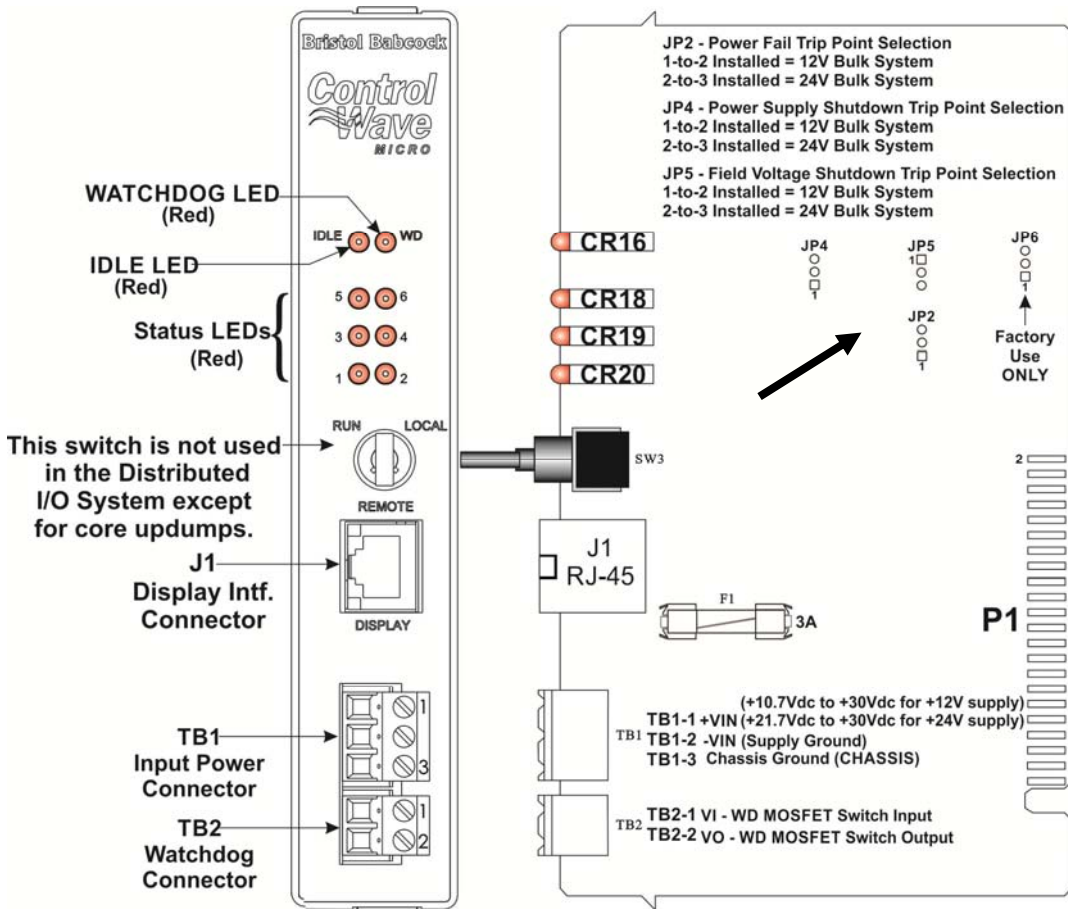
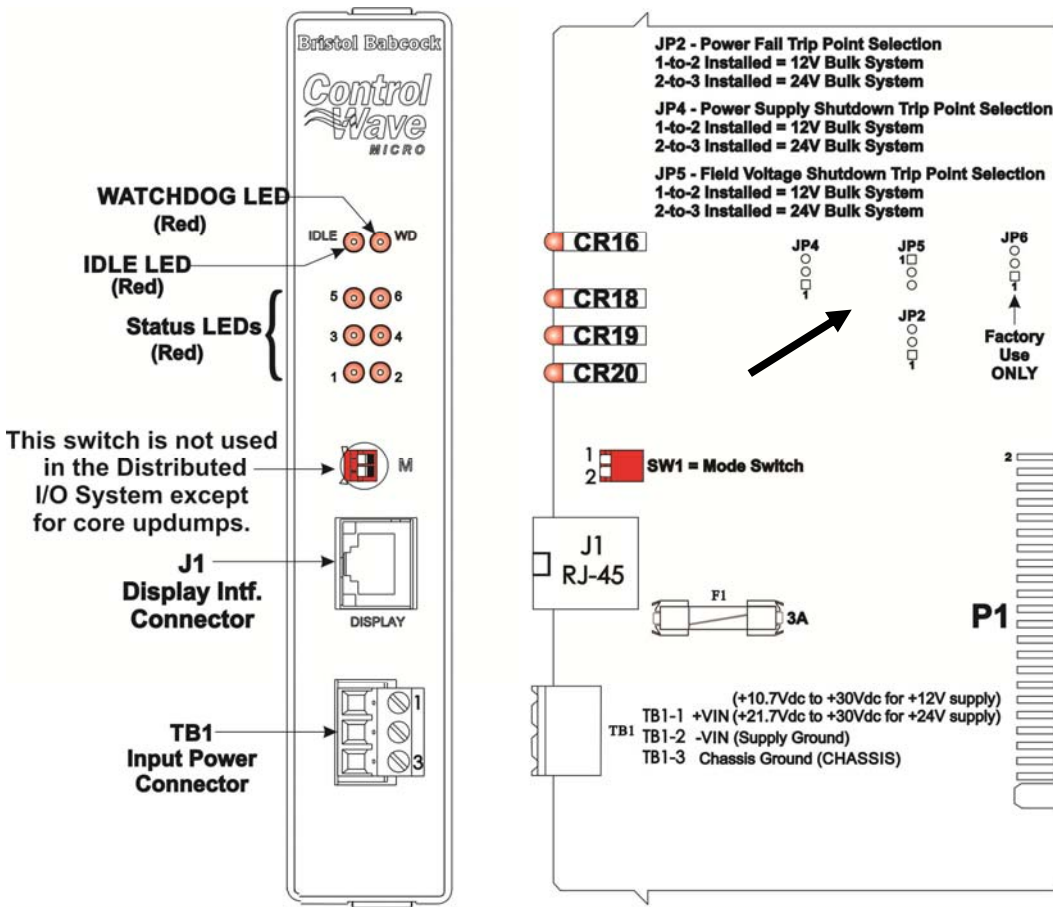

Figure 2-9. PSSM with Run/Remote/Local Switch, Display Interface, and Watchdog Connector
Figure 2-10. PSSM Module with Mode Switch, Display Interface, and without Watchdog Connector
- PSSM with Display Interface and Watchdog output (model 396657-01-0, Revision A and above) (see *Figure 2-9*)
- PSSM with Mode Switch SW1 & Display Interface (model 396657-02-8 without Watchdog output, Revision A and above) (see *Figure 2-10*)
Two terminal blocks (see Figure 2-9) provide external input power and watchdog connector switch connections. Two red LEDs on the PSSM’s front panel enable you to monitor the status of the watchdog (WD) and Idle (IDLE) circuits.
The power supply operates from +10.7 to +30 Vdc or from +21.7 to +30 Vdc. You can configure the nominal input supply configuration (12V or 24V) using configuration jumper switches on the PSSM PCB. See *Figure 2-9* and *Figure 2-10*.
The PSSM has three jumpers which you set based on whether your bulk DC power supply will provide +12V or +24V. See *Figure 2-9* or *Figure 2-10* to locate the jumpers on your version of the PSSM.
The version of the PSSM shown in *Figure 2-9* includes an optional watchdog connector. The purpose of the watchdog connector is to trigger an external alarm or annunciator if the ControlWave Micro Distributed I/O System enters a “watchdog” condition in which the CPU cannot control your I/O.